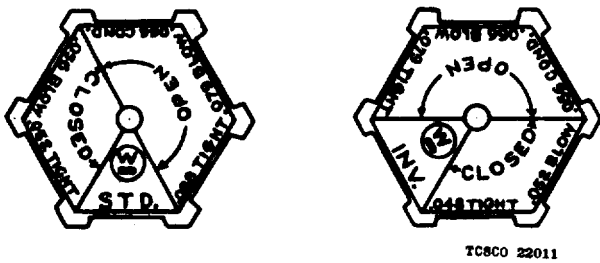
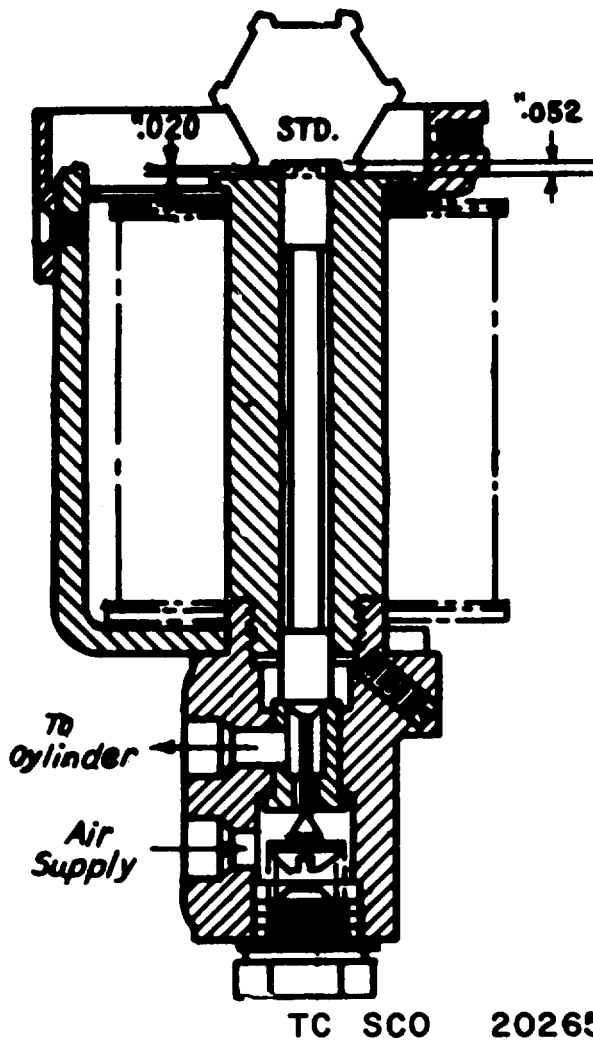
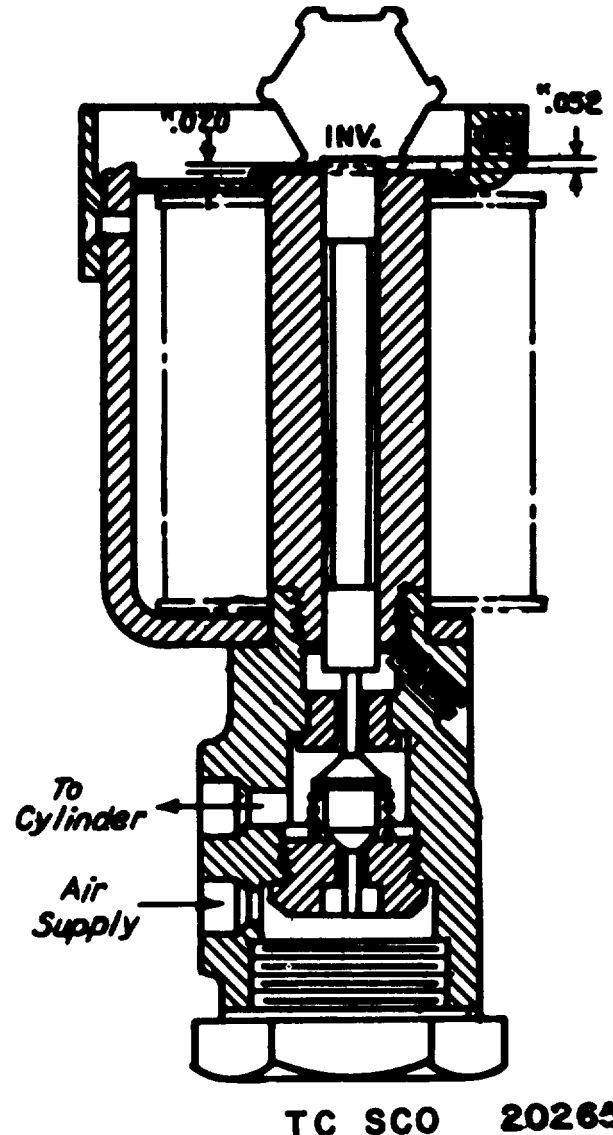

Figure 24. Valve setting gage.
Figure 25. Gage in proper place for checking and adjusting standard valves.
Figure 26. Gage in proper place for checking and adjusting inverted valves.
simple gage, figure 24, is employed. This gage is used for both standard and inverted valve by turning it over, depending on type of valve to be checked.
- (a) Gage, figure 24, is used to check and adjust the final gap and length of new upper valve stems. Remove the magnet cap and insert the gage as shown on figure 25. Flat-file the top of the upper stem until the 0.056-inch gage will admit air to the cylinder with a slight leak out the exhaust and the 0.052-inch gage will close the exhaust valve tight. The final air gap is then between the two, or approximately 0.054 inch. New stems have excess length and should be ground to a tight seat before adjusting the gap. Directions for grinding are included in h below.
- (2) *Lower valve stem.* The same gage, figure 24, is used, after the upper valve stem has been adjusted, to adjust the travel and the length of the lower valve stem. Use the 0.088-inch gage. This will probably cause the valve to unseat and blow due to excess length of the lower stem. The upper end of lower stem should then be flat-filed until the 0.088-inch gage will not touch but the 0.070-inch gage will unseat the lower stem. The total gap is then approximately 0.086 inch and the travel is 0.086 inch minus 0.054 inch or 0.032 inch. In service, it is permissible to allow the lower stem to wear as long as the condemning gage 0.066 inch makes the lower valve blow when the upper stem is new. If it does not, the travel has then reached 0.012 inch and the lower
- (1) Gage, figure 24, is used to check and adjust the final gap and the length of new pushrods. Remove the magnet cap and insert the gage as shown on figure 26. Flat-file the top of the pushrod until the 0.052-inch gage discharges the cylinder with a slight leak out the exhaust and the 0.049-inch gage will discharge the cylinder with the inlet valve tight. The final air gap is then between the two, or approximately 0.050 inch. New pushrods have excess length and valves should be ground to a tight seat before adjusting the